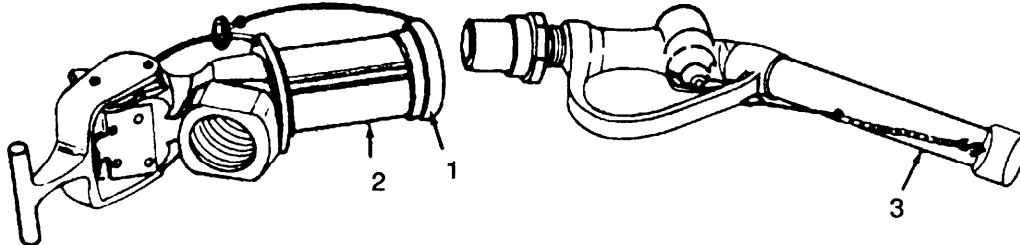

Figure 4-16. Adapter, Nozzle, Replace/Installation.
- (1) Clean adapter with cleaning solvent.
- (2) Allow to dry.
c. Removal. (Refer to Figure 4-16.)
- (1) Slide reducer ring (1) on closed circuit nozzle (2) and remove adapter (3).